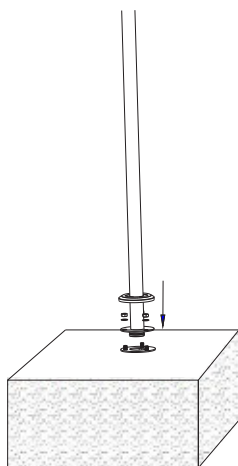

Figure 3
- 2) Place the O-ring onto the bottom part of nozzle, nozzle head facing the pool, tighten with nuts by using spanner (Figure 3 & 4).